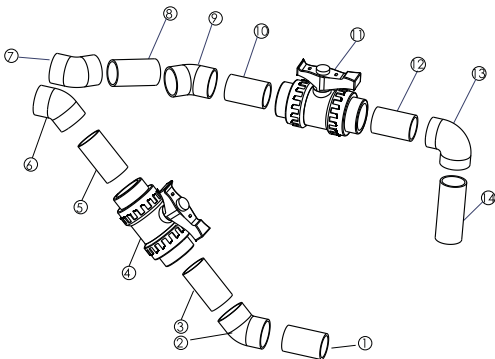

Figure14
- For each model of pump pipe please refer to figure 14, 15, 16.